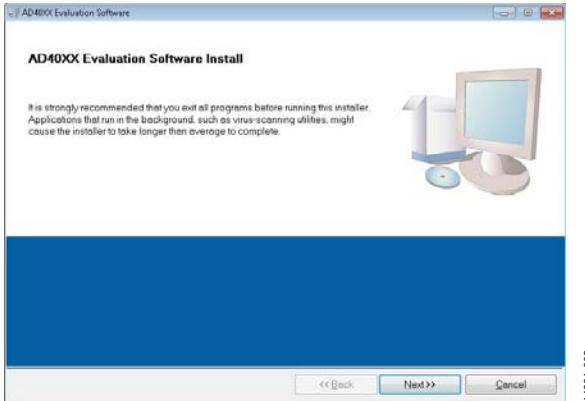

Figure 4. AD40XX Evaluation Software Install Window
1. Launch the evaluation board software installation by clicking the **setup.exe** file. The software installation window opens, as shown in Figure 4.